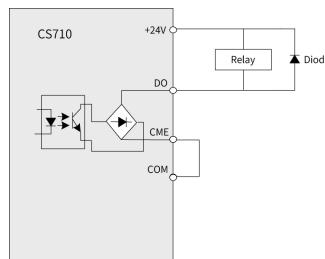

Figure 3-67 Wiring the DO
- \* Do not reverse the polarity of the snubber diode, as shown in Figure 3-67. Otherwise, the 24 VDC power supply will be damaged immediately once there is DO.